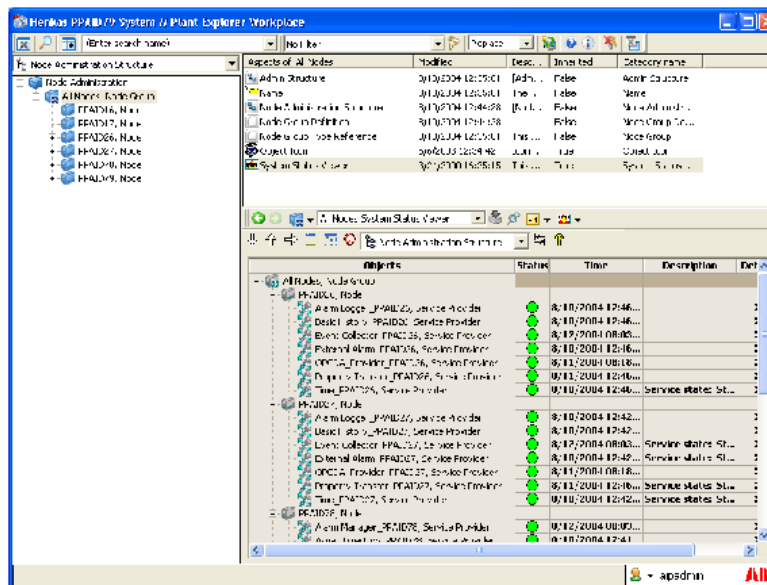

Figure 4. Verifying the System and Servers
3. Use the Object Browser to select All Nodes, Node Group as shown in Figure 4.